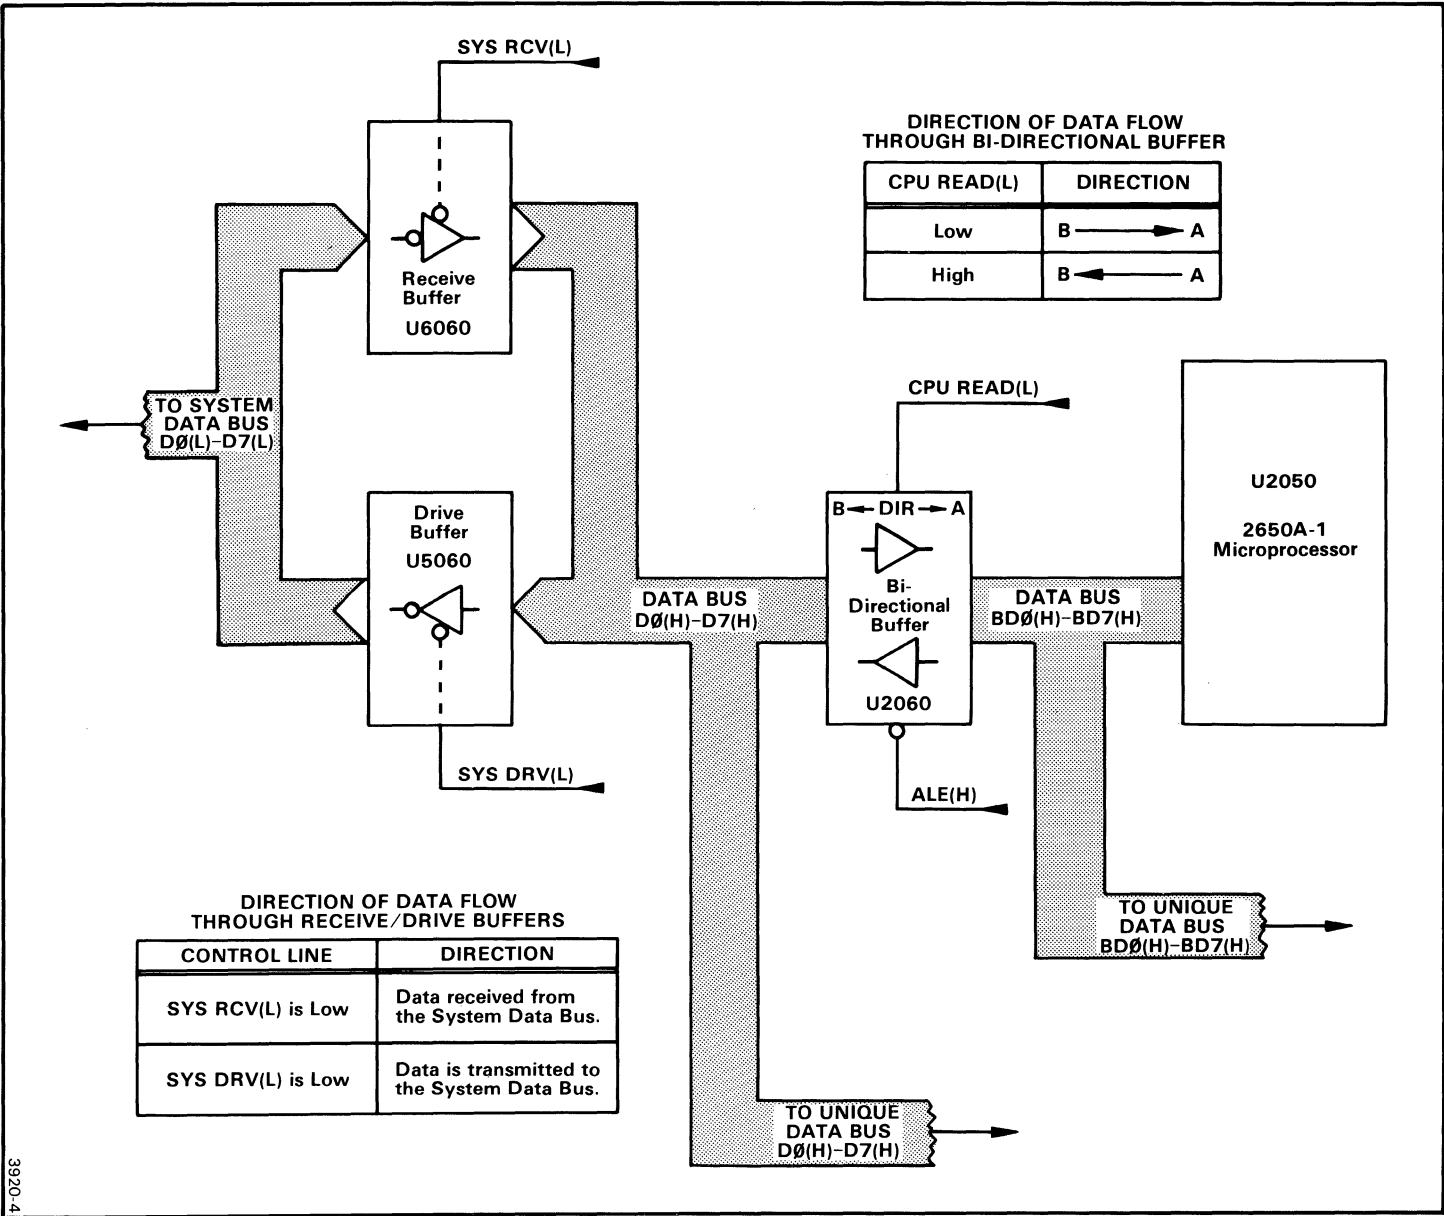

Fig. 4-2. Directional and bidirectional data buffers simplified block diagram.
Data bus DO(H)--D7(H) interfaces directly with the system processor. It also interfaces with the other data bus, BDO(H)--BD7(H), through directional buffer U2060. Data bus BDO(H)--BD7(H) interfaces to/from the system data bus through receive/drive buffers U5060 and U6060. Figure 4-2 is a simplified schematic of the data buses, showing the direction of data flow when the buffers are enabled.